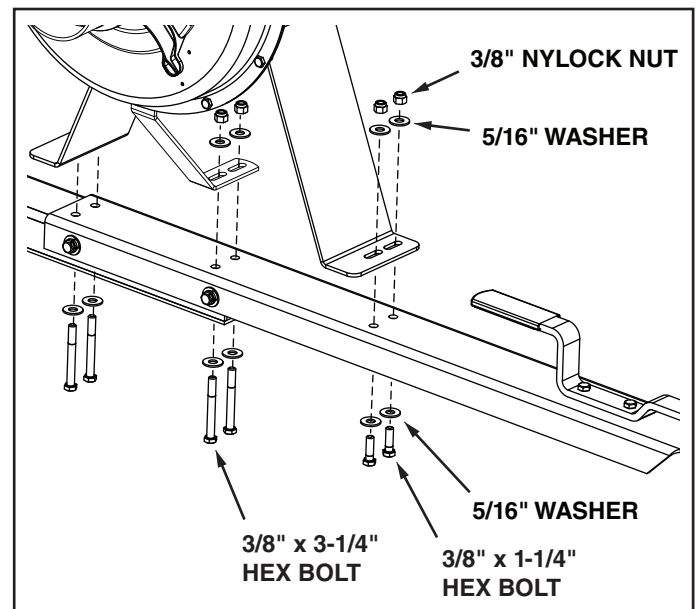

FIGURE 7
- Assemble the front tongue on top of the rear tongue using four 3/8" x 3-1/4" hex bolts, two 3/8" x 1-1/4" hex bolts, twelve 5/16" flat washers and six 3/8" nylock nuts. Tighten. See figure 7.
- Attach the engine base assembly to the tongue using four 3/8" x 3-1/4" hex bolts, two 3/8" x 1-1/4" hex bolts, twelve 5/16" flat washers and six 3/8" nylock nuts. Tighten. See figure 7.